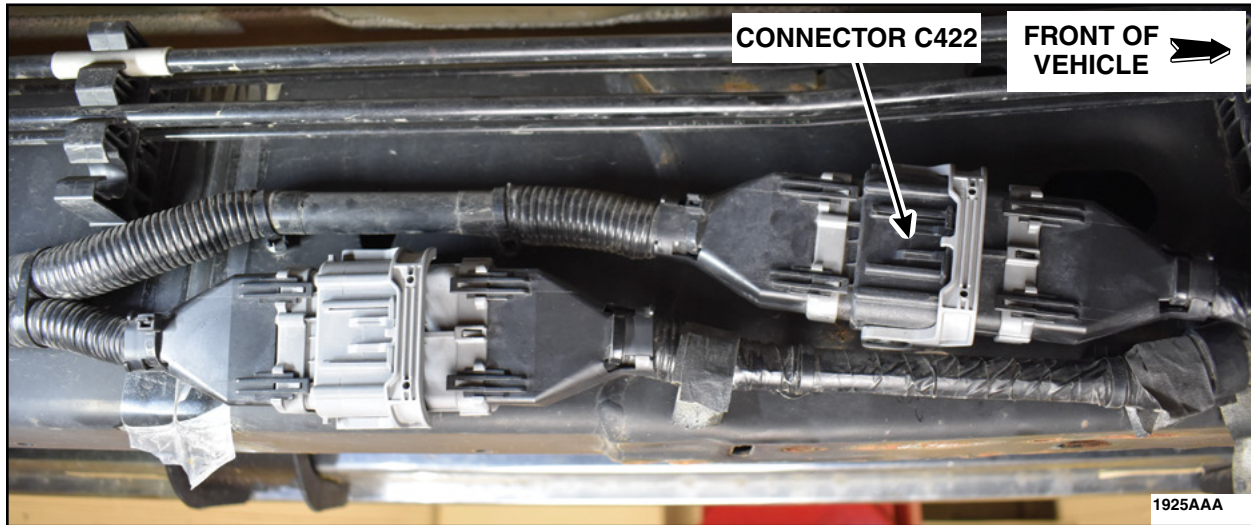

FIGURE 47
49. Locate and disconnect the connector C422. See Figure 47.